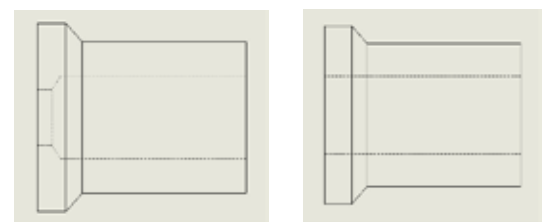

Figure 2
- Machine or drill outer spacers to match large ( $\frac{3}{4}$ " bore as shown. Figure 2